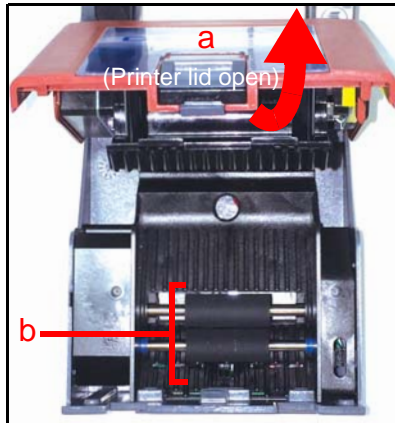

Figure 14 Presenter Assembly
4. Rotate the Lid up in the direction indicated by the red arrow (refer to Figure 14 a on page 17) to access the Printer interior.
- Presenter Assembly (refer to Figure 14 b on page 17)